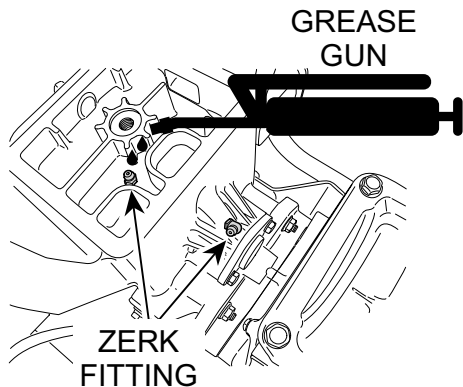

Figure 24. Grease Fittings (Crankcase)
- The rammer crankcase bearings (Figure 24) should be lubricated with **five shots** of grease with a hand grease gun after each eight (8) hours of use.